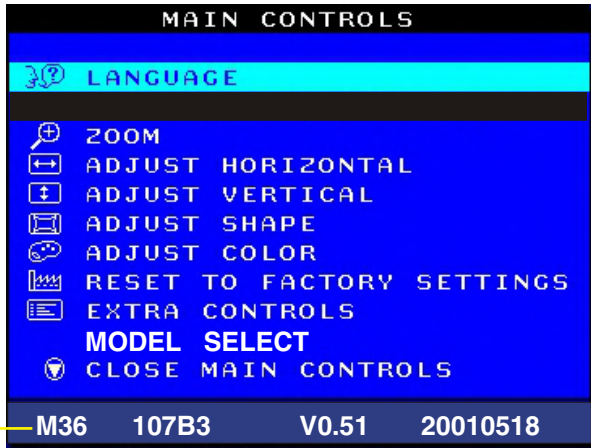

Fig. 2.1
- Press "⏪" and "⏩" simultaneously on the front control panel, then press "⏹", wait till the OSD menu with characters "M30 107S P V0.82 20010207 (below OSD menu)" comes on the screen of monitor as shown in Fig. 2.1.